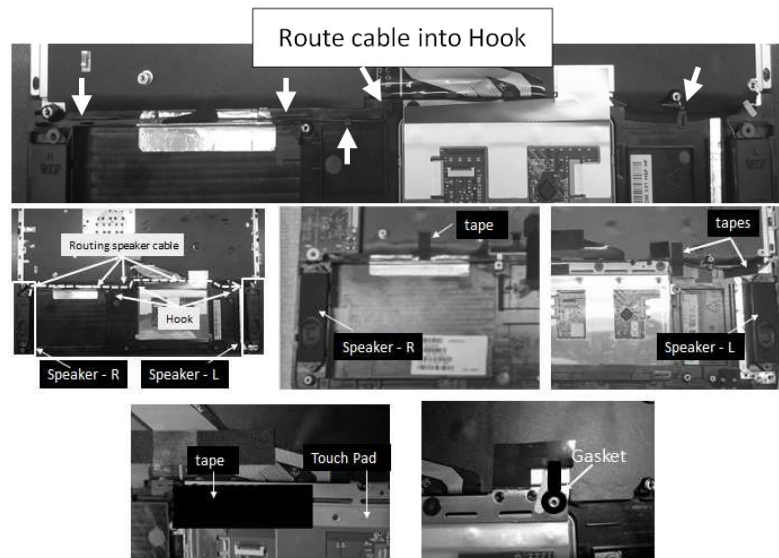

Figure 4-17 Removing Speaker and Touch pad (or Secure pad)
Remove Speaker and Touch pad(or Secure pad) according to the following procedures and Figure 4-17.
Install Speaker and Touch pad (or Secure pad) according to the following procedures and Figure 4-17.
6. Route the speaker cable in the wire guide according to Figure 4-17. Place the cable into the ditch and correct position. Avoid pinching the cables.